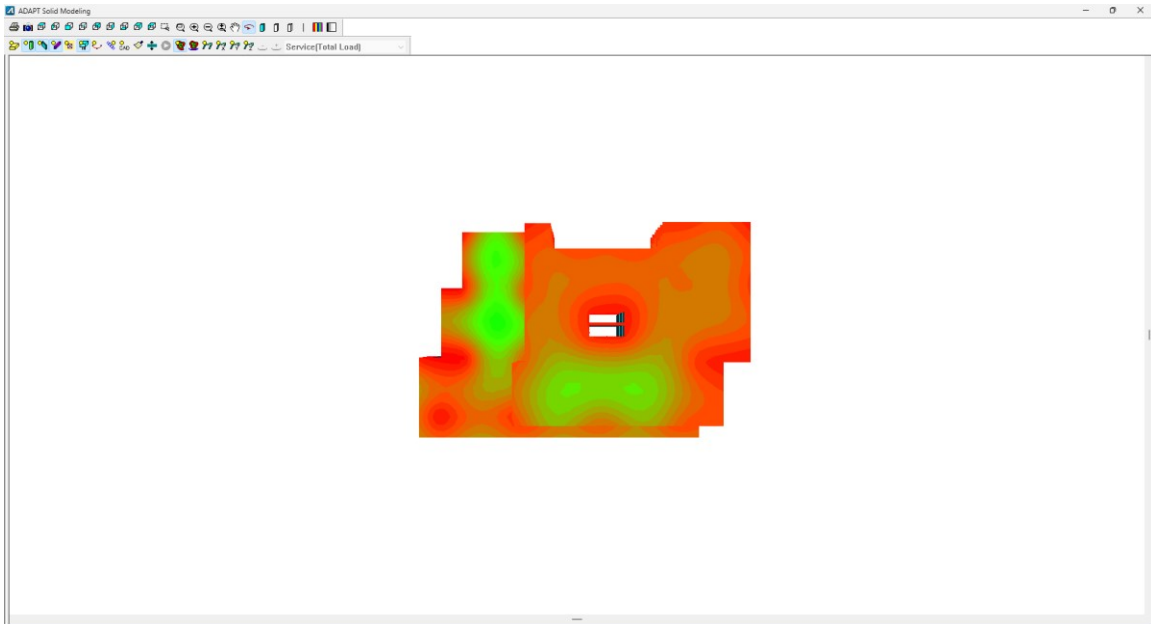

FIGURE 7-15
- Click on the **View Model**  icon on the *Bottom Quick Access* toolbar to bring up the *ADAPT Solid Modeling* window as shown in **FIGURE 7-15**.